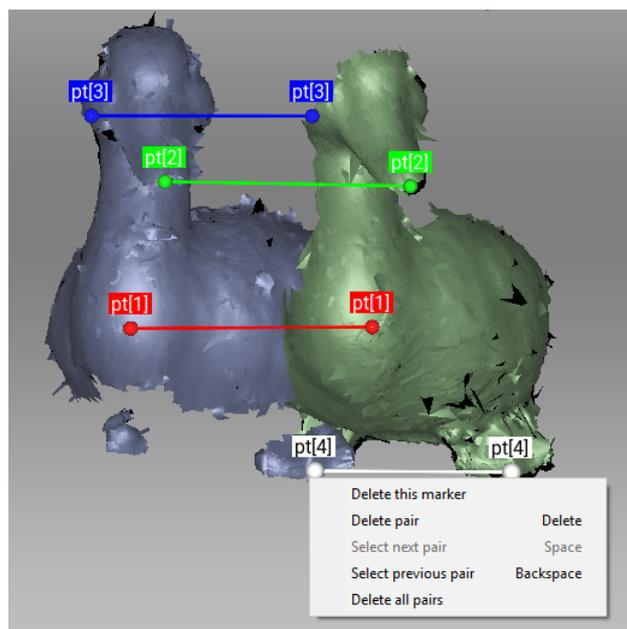
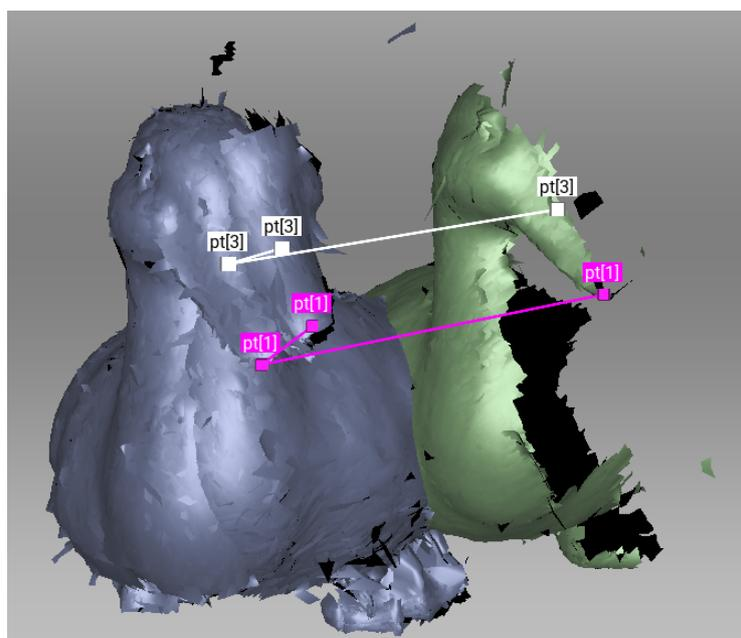

Figure 67: Creation of point pair.
Figure 73: Before alignment: two point-set added.
When specifying points in the *Rigid* and *Nonrigid* modes, the application automatically creates pairs. Having specified one pair, you can immediately create the next one. In *Complex* mode you must confirm set creation by hitting `Space` or by clicking *New set* from the left panel, because the set may comprise multiple points (see Figure 67 and Figure 73).
3. Specify several point pairs (Figure 67), keeping in mind the recommendations from *Specifying Points and Editing Their Positions*.
3. Specify one or more point sets on the scan surface (see Figure 73), keeping in mind the recommendations in Specifying Points and Editing Their Positions.